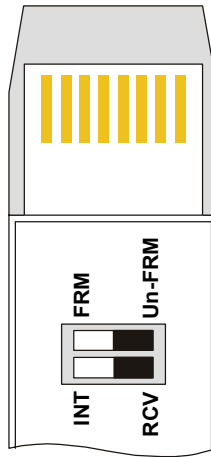

Figure 2-1. DIP Switch Location
1. Identify the DIP switch on underside of module (see Figure 2-1).